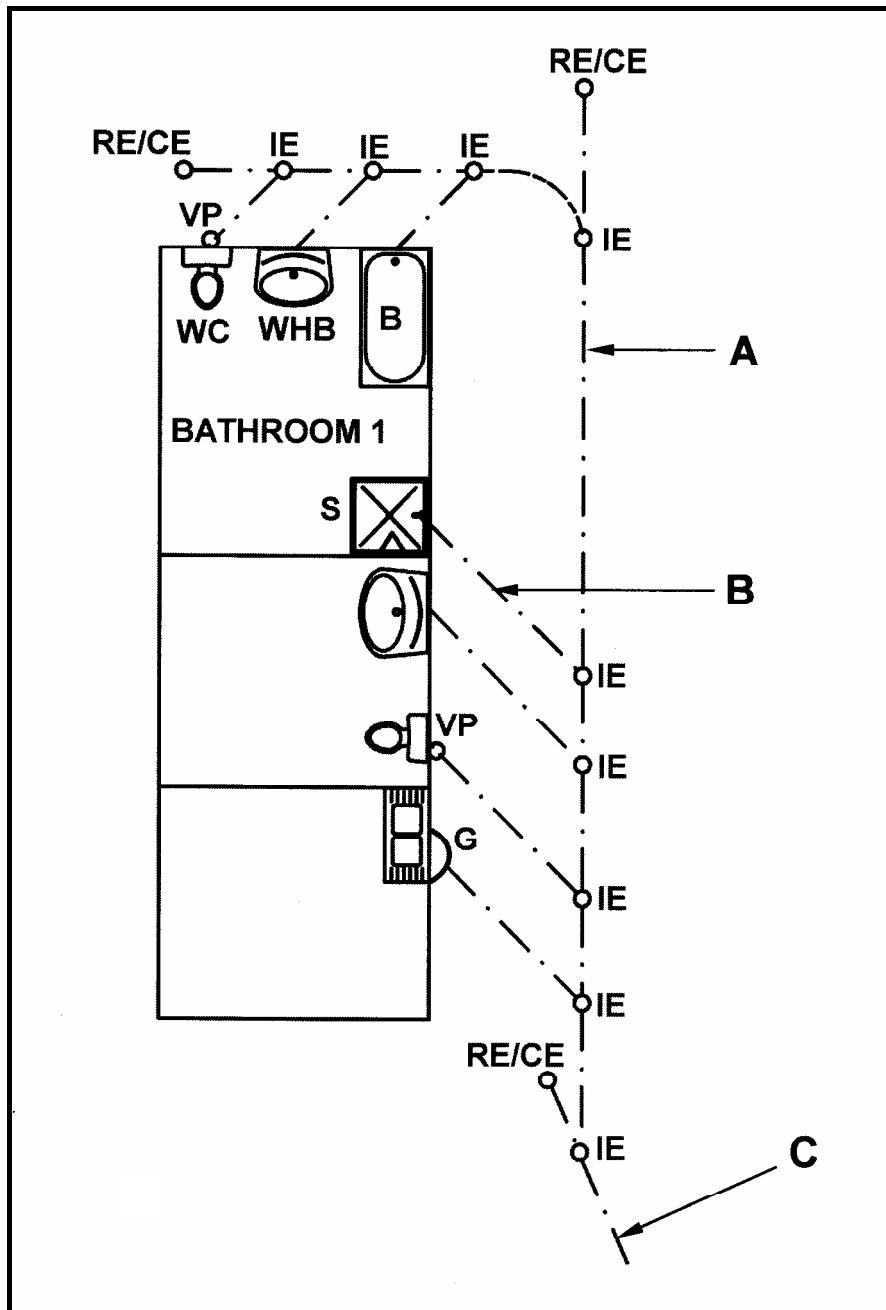

FIGURE 3.1
3.1 FIGURE 3.1 below shows the layout of a one-pipe sewerage system of a residential house in a rural area. Analyse FIGURE 3.1 and answer the following questions.